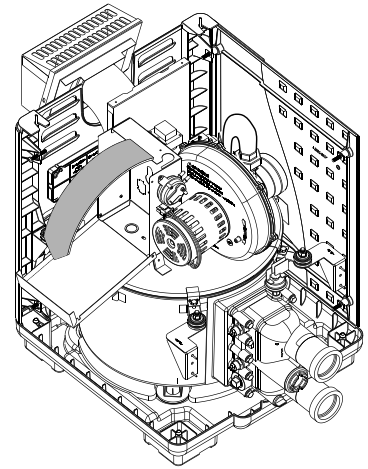

Figure 23.
3. Open control box cover (see Figure 23).